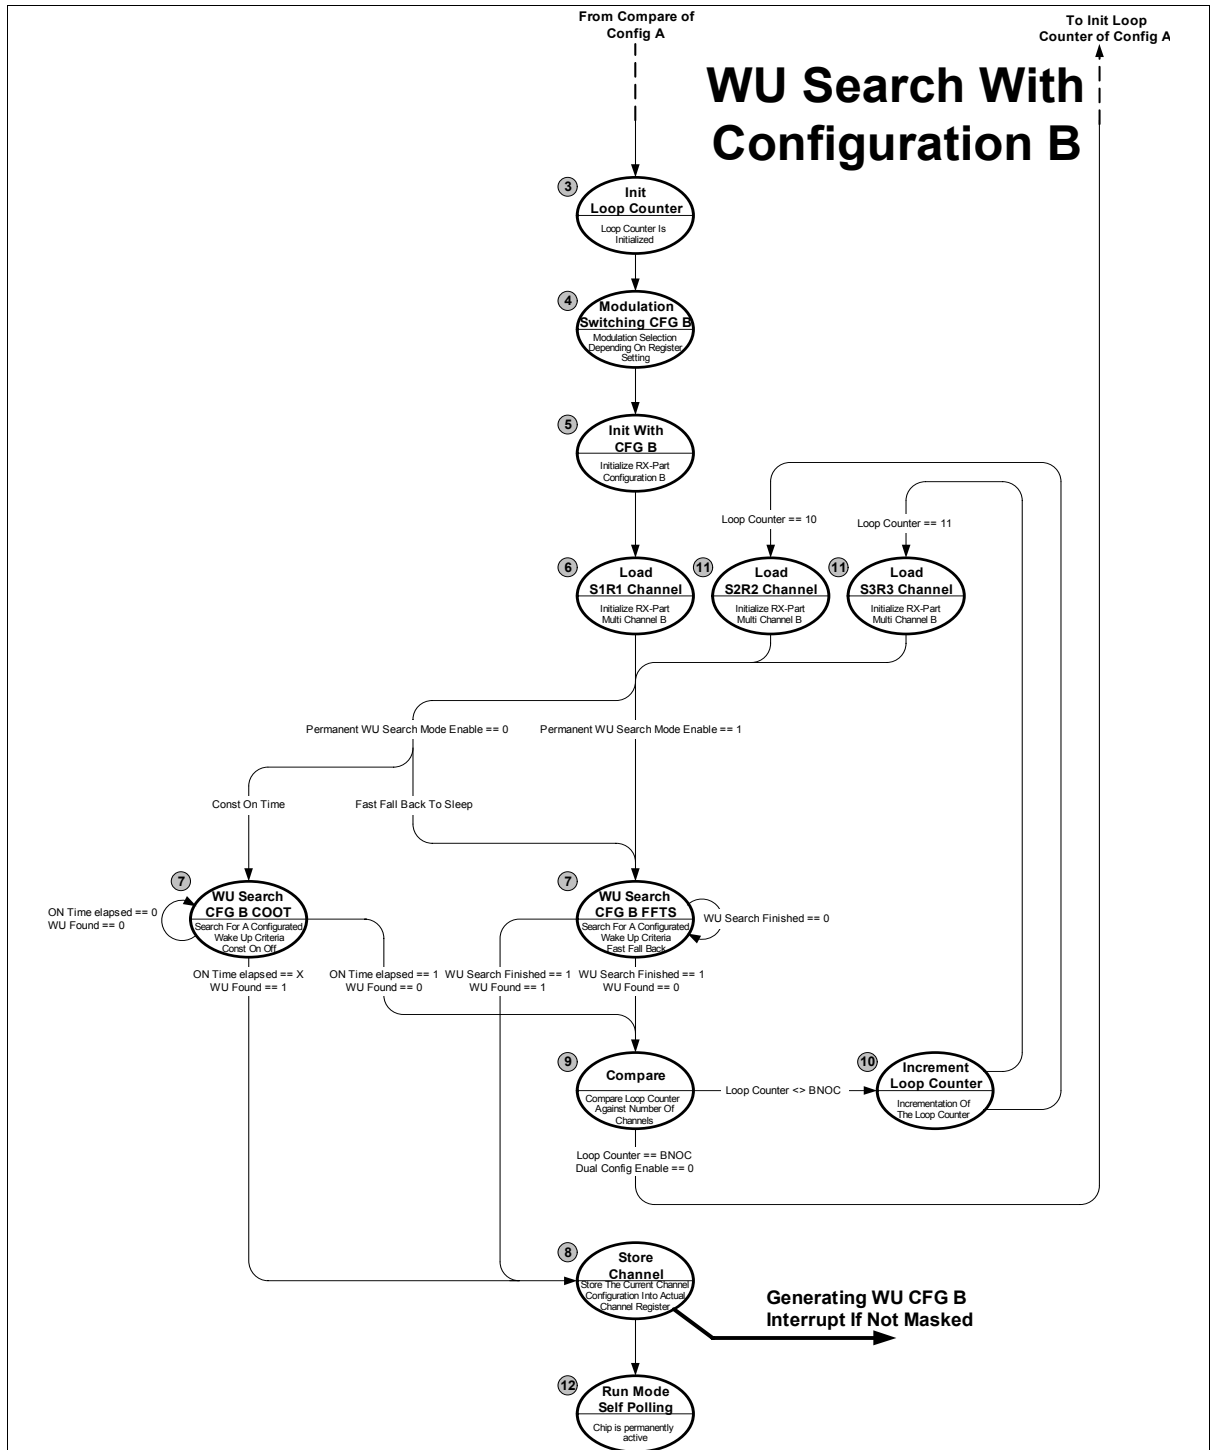

Figure 21 Wake up Search with Configuration B
- 9.) **Compare:** If the loop counter equals the number of channels selected by the SFR control bit ANOC, the next state of the chip will be the **Idle state**, unless dual configuration is enabled by the SFR control bit DCE. In this case, the next state will be **Init Loop Counter** in **Figure 21** . In all other cases, the chip resumes operation in the **Increment Loop Counter** state.